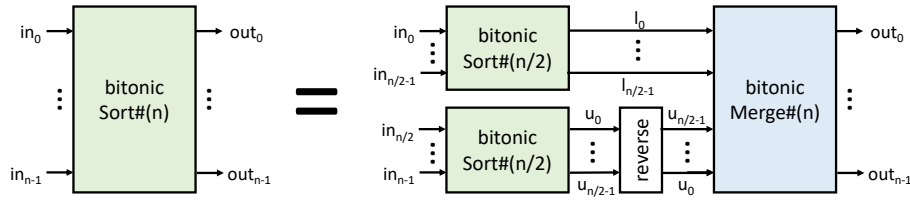
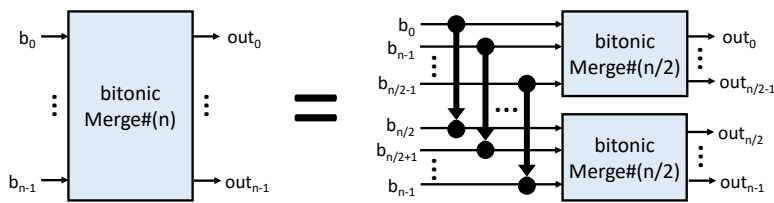

Figure 3: n-element bitonic sorting network.
Figure 4: n-element bitonic merge.
Bitonic sorting networks follow a simple recursive construction. An  $n$ -element network has three main blocks, shown in Figure 3. First, it sorts the top and bottom halves of the input (in parallel). Then, it
Merging a bitonic sequence can be done recursively, as shown in Figure 4. For an n-element merge, the merge circuit first features a group of  $n/2$  comparison blocks, where each block compares elements  $i$  and  $i + n/2$  (i.e., the corresponding elements in the top and bottom halves) for  $i \in [0, \dots, n/2 - 1]$ . Then, the circuit merges the resulting top and bottom halves.
Take a look at these functions and compare them with the diagrams in Figure 3 and Figure 4. For simplicity, these functions use Vector inputs and outputs. Vector is a built-in type that denotes a group of values of the same type. Although Vectors, like all other types, are just a bunch of wires in the end, they are clearer to use than a `Bit#(n)` variable. For example, `Vector#(4, Bit#(32)) v` is a 4-element vector of 32-bit variables, so it takes 128 bits. We could avoid using vectors at all and use a `Bit#(128) v` instead, but this would be cumbersome. For example, in the first case (i.e., with a vector), we can obtain element 1 with `v[1]`. But in the second case (i.e., with a `Bit#(128)` variable), we'd need to type `v[63:32]` to get element 1.